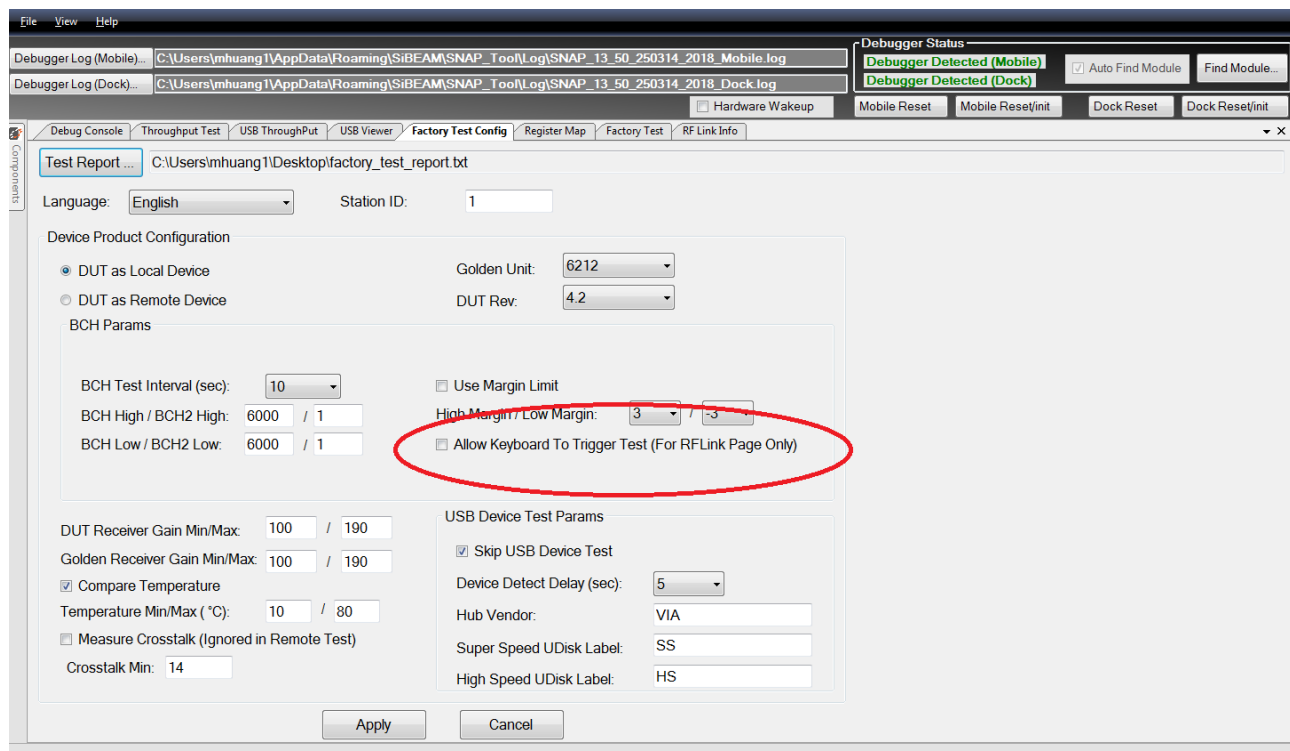

Figure 3.16. Link Margin Test Config
- Test condition is defined from the Factory Test Config page, as shown in Figure 3.16.